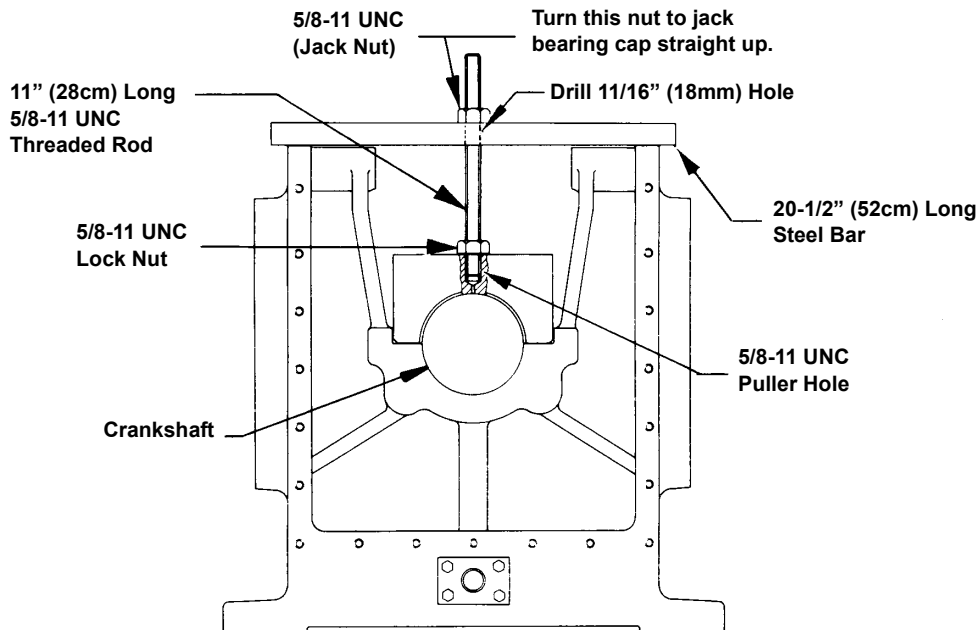

FIGURE 5-12: MAIN BEARING CAP PULLER
4. Remove the capscrews from the main (journal) bearing caps. Pull the caps straight up to prevent damage to the dowel fit. If the cap is tight, use a Bearing Cap Puller as illustrated in Figure 5-12: on Page 5-16.